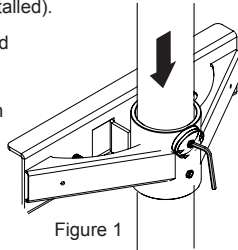

Figure 1
- For dual 1.5" on center channel you will need to use the four outer holes on the base of the pole (Figure 1)
- Insert the four (4) 1/4 20" Flat Hex Screws through the top of the four holes on base shown in figure 1.
- 1) Slide your mounting arm adapter bracket over the pole and base (Figure 1) (not included, but should be previously installed).